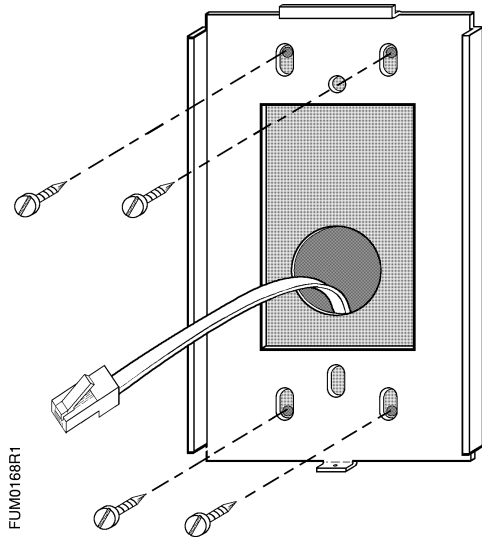

Figure 2. Installation with Existing Cutout.
- a. Position the mounting bracket over the existing cutout on the fume hood. Align the holes on the mounting bracket with the screw holes of the cutout (Figure 2).
3. Attach the mounting plate to the mounting surface using the screws provided. Refer to Figure 2 or 4.